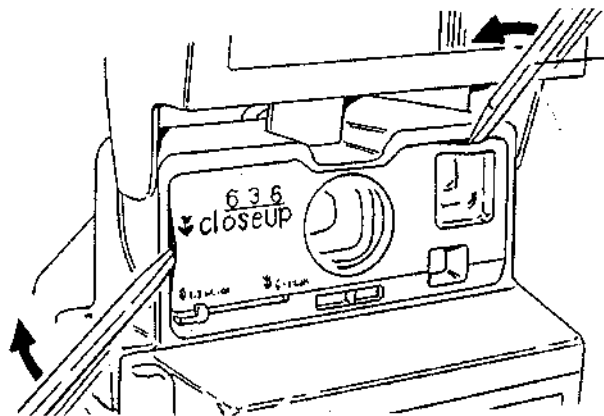
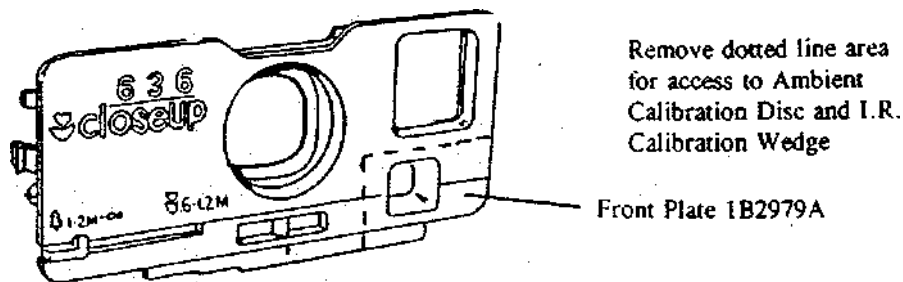

Fig. 3 Removing Front Plate/Lens Panel
Fig. 5 Replacing Front Plate with modified Front Plate
- a. Remove the Front Plate/Lens Panel from the apron (Fig. 3).
- a. Remove the Front Plate/Lens Panel (see Fig. 3) and replace it with the modified Front Plate shown in Fig. 5 (NPI 600AM #92-30 has more information).